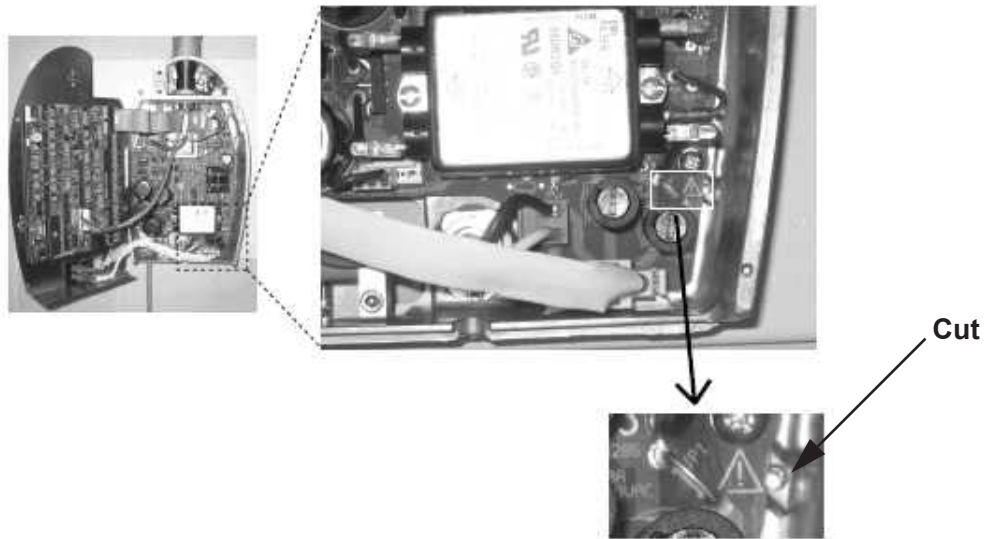

Figure 4-4 Cutting Jumper JP1
4. To enable the neutral line fuse, cut jumper JP1 on the Converter Board (124-0292G1), as shown in Figure 4-4.